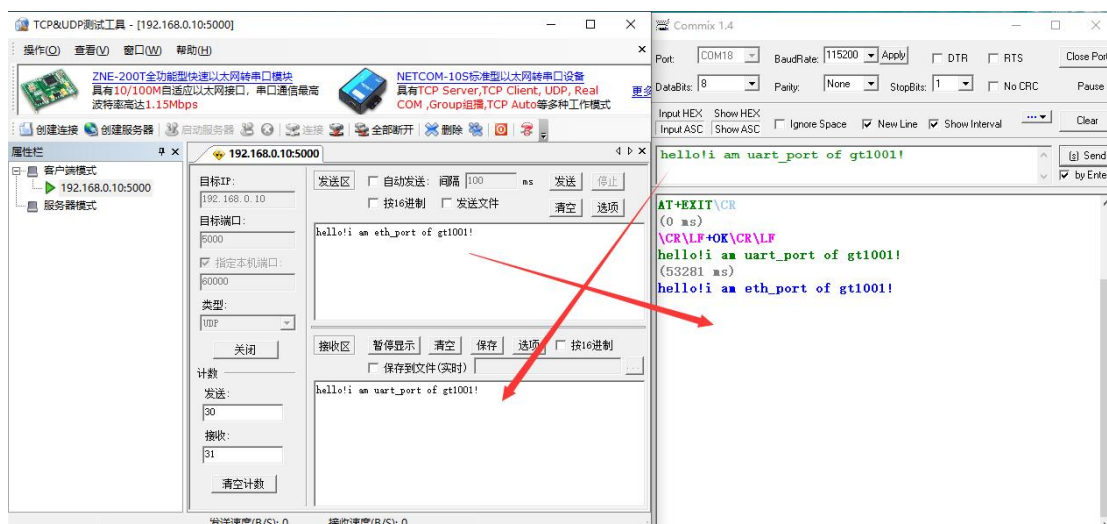

Figure 6-8 UDP Data Transmission
4) Click Create to enter the data transmission interface, and the data communication is as shown in Figure 6-8.